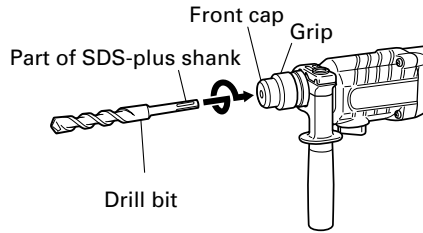
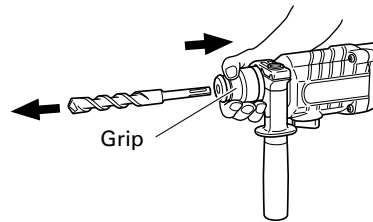

Fig. 2
Fig. 3
6. Mounting the drill bit (Fig. 2)
- (1) Clean the shank portion of the drill bit.
- (2) Insert the drill bit in a twisting manner into the tool holder until it latches itself. (Fig. 2)
- (3) Check the latching by pulling on the drill bit.
- (4) To remove the drill bit, fully pull the grip in the direction of the arrow and pull out the drill bit. (Fig. 3)